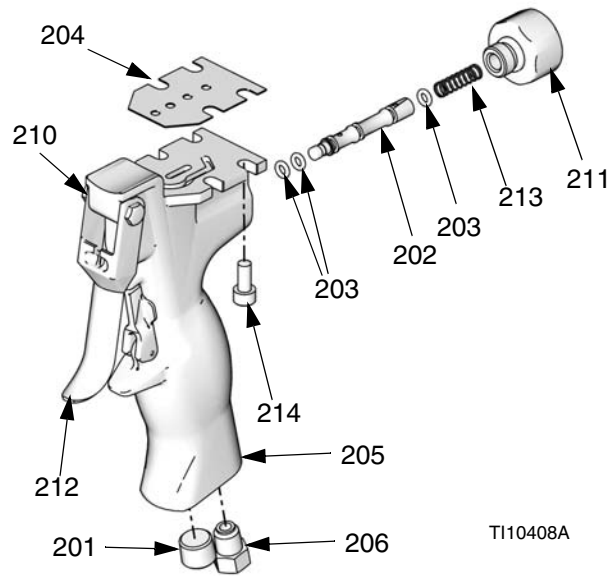

FIG. 7
1. Liberally lubricate o-rings (203) and reassemble. Install spool (202) and spring (213). Torque plug (211) to 125-135 in.-lb (14-15 N•m). See FIG. 7.
2. Align the gasket (204) and dispense valve on the top of the handle (205). Torque the four screws (214) evenly to 15-20 in.-lb (1.7-2.2 N•m).